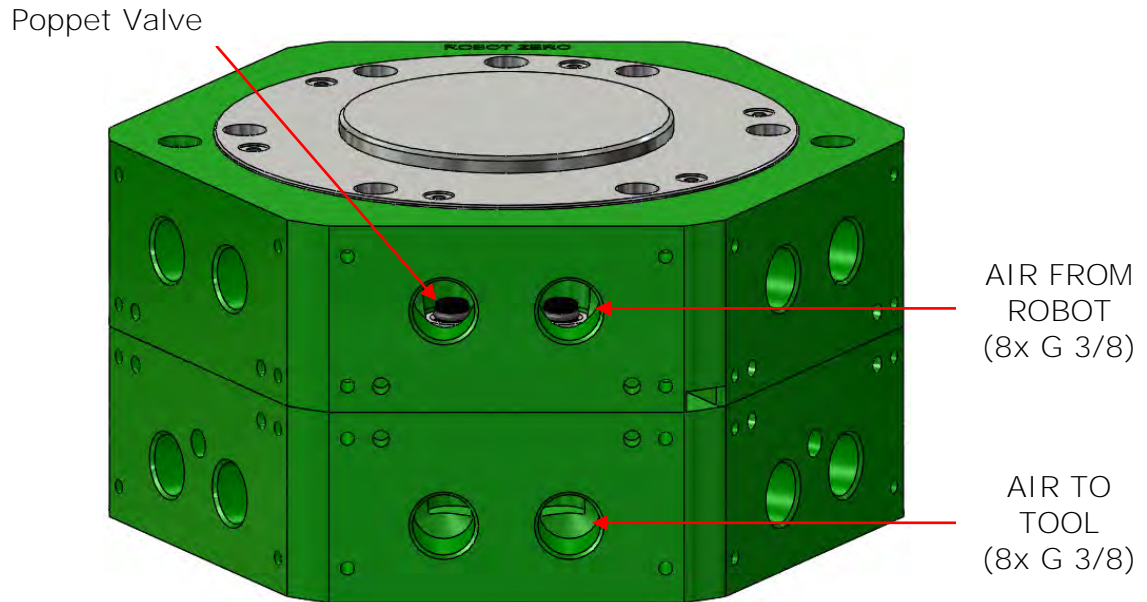

Figure 5.6-1. E125LP User Pneumatic Ports
The E125LP Tool Changer has eight (8) available user pneumatic ports to supply air through the tool changer to the specific tool being used. The robot side ports can be checked if a poppet valve is installed. For the ports to be operational, the tool changer must be coupled and be fitted with a valve fitting assembly (0002-B04A). Air can be supplied via directly ported air fittings supplied by the customer (Figure 5.6-1).